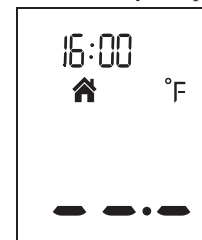

Figure 4
2. Press the *Test Button* to turn on the thermometer, then press and hold *Setting Button* to switch to object mode, you can take the object temperature after hearing two beep sounds.(see figure 4) If error messages appears, it means the thermometer is not ready for measurement.